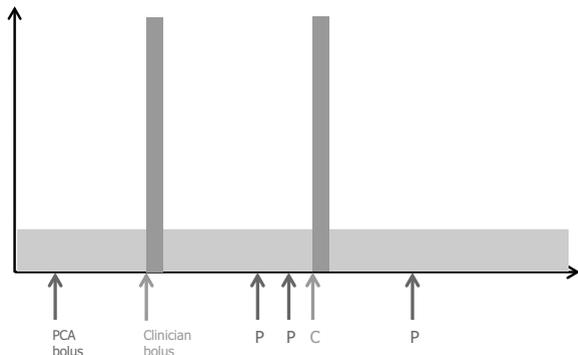

Figure 4.2: Continuous rate infusion mode
- Continuous rate, see Figure 4.2, page 27